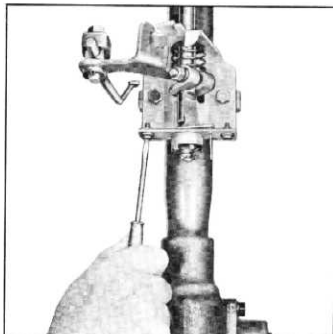

Fig. 26—Adjusting Safety Switch
2. Place selector lever in neutral and with clip over flats on end of shifter shaft, insert pin into switch mounting bracket and locating plate (fig. 26).